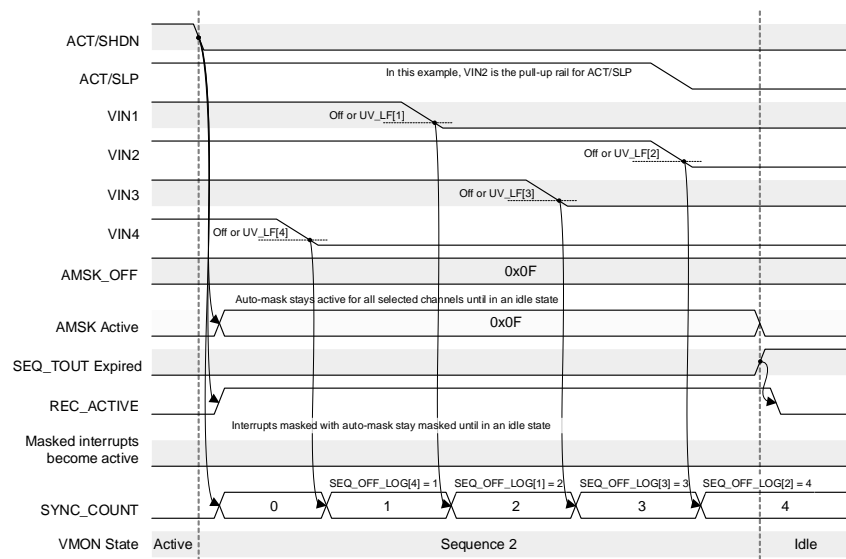
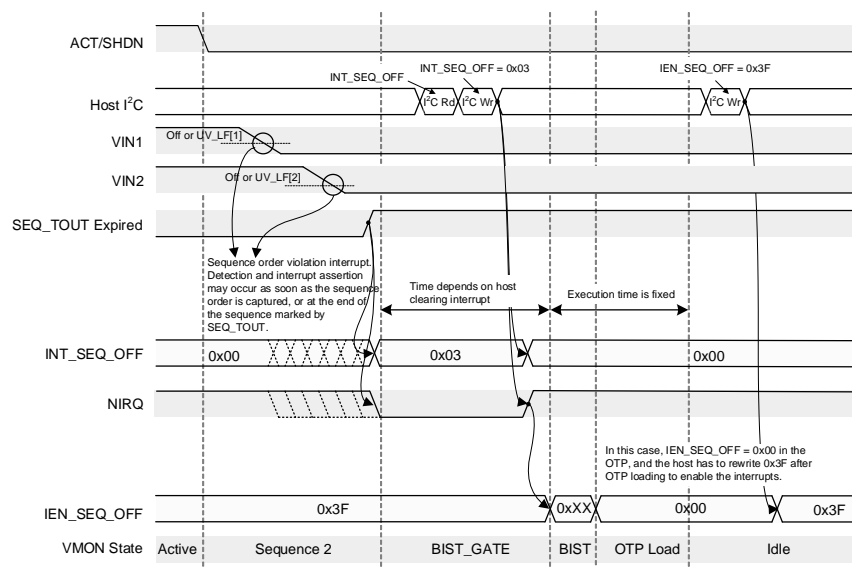

Figure 10: Off Sequence Monitoring (AT_SHDN Disabled)
Figure 11: Off Sequence Monitoring (AT_SHDN Enabled)
2. The device checks the AT_SHDN bit. If AT_SHDN is disabled, then the device directly enters the idle state (see Figure 10). If AT_SHDN is enabled and AT_POR is not set to 00b, then BIST is executed after SEQ_TOUT expires. Then the device returns to the idle state with a loaded OTP code (see Figure 11).
In the BIST gate, ADC monitoring works as normal. Meanwhile, OVHF and OVLF monitoring re active, but UVHF and UVLF monitoring are inactive, similar to the functionality in the idle state. Toggling the AT/SHDN or ACT/SLP pin cannot exit the BIST gate state. The SMCU is expected to react to the interrupt request and bring the system to a safe state. The I²C is not accessible during BIST, but is accessible via the BIST gate. Once all faults have been cleared by the host, the MPQ79500FS exits BIST gate, runs BIST, reloads the OTP, then enters the idle state (see Figure 11 on page 40).